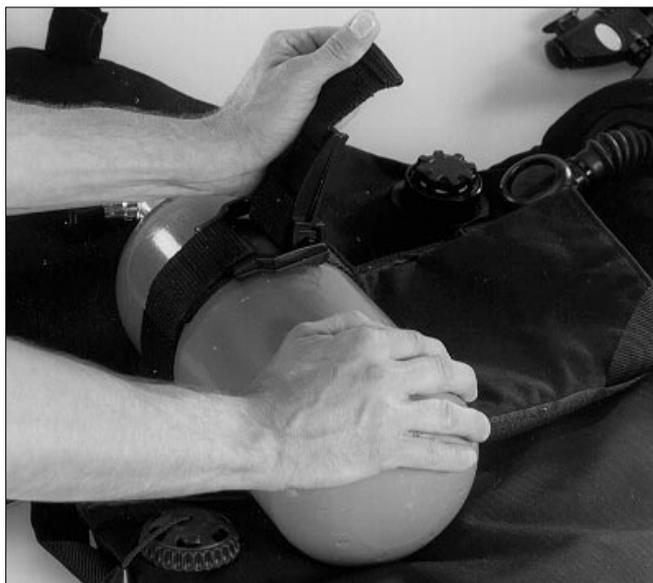

Fig. 6.14 Mounting of Nitrox cylinder
- The Finimeter runs between the sodalime cartridge and the Nitrox cylinder and can be attached to the unit using one of the velcro loops (60) (FigureBild 3.1). Push Nitrox cylinder into cylinder strap and screw pressure reducer onto cylinder valve. Sign Nitrox cylinder and secure it by closing the strap (Figure 6.14).